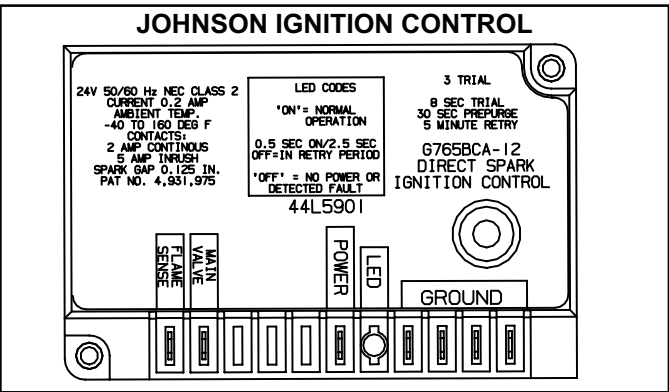
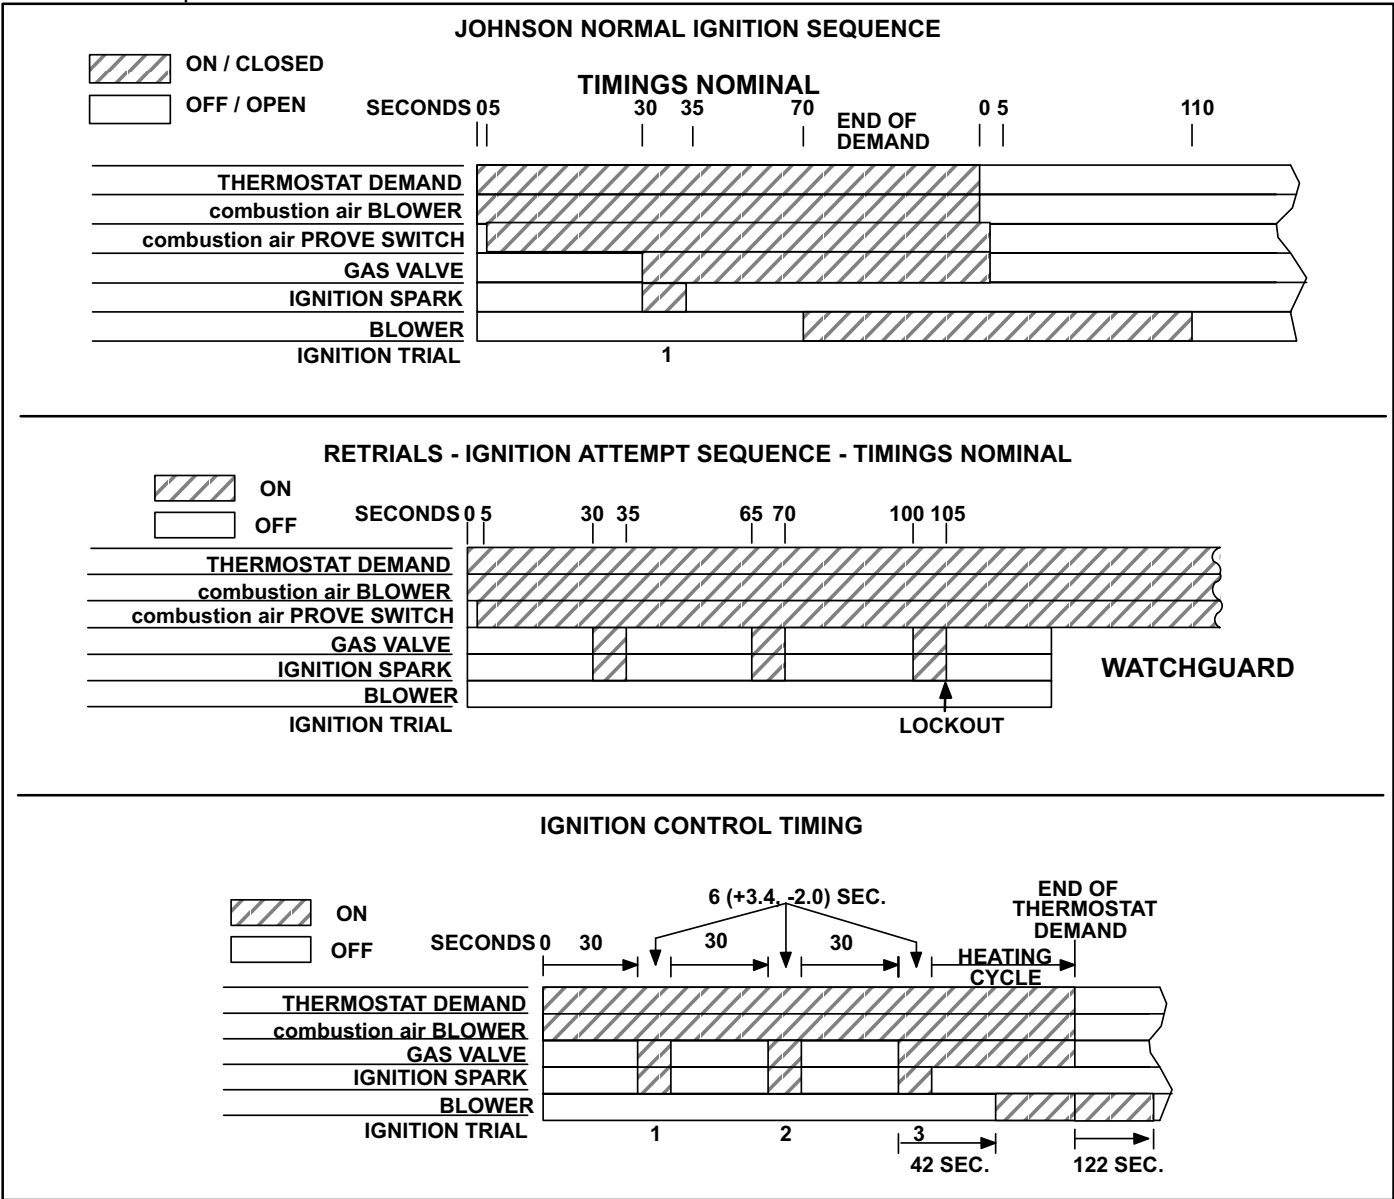

FIGURE 6
FIGURE 7
All GCS16/CHA-180/240 units use a line voltage to 24VAC transformer mounted in the control box. The transformer supplies power to control circuits in the unit. Transformers are rated at 70VA and is protected by a 3.5 amp circuit breaker (CB). CB8 is internal to the transformer. Transformers use two primary voltage taps as shown in figure 6.
ALL GCS16 units are equipped with a Johnson control. See figure 6. The ignition control provides three main functions: gas valve control, ignition, and flame sensing. The unit will usually ignite on the first attempt; however, the ignition attempt sequence provides three trials for ignition before locking out. After one hour, the ignition control automatically resets and provides three more attempts at ignition. Manual reset after lockout requires breaking and remaking power to the ignition control. See figure 7 for ignition sequence with retrials timings.